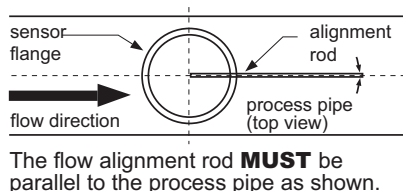
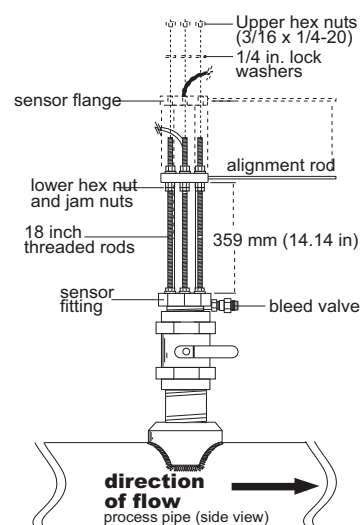

Fig. 10
Fig. 11
- Wipe the sensor body with a dry, clean cloth. Orient the alignment hole on the sensor flange to point **downstream**. Place the slotted flange over the threaded rods. Lower the sensor into the fitting until the sensor flange rests on the lower hex and jam nuts. (Fig. 10)
- Secure the sensor with lock washers and upper hex nuts on the top of the flange. Before tightening, align the sensor flange so that the alignment rod is parallel and level with the process pipe. (Fig. 10 & Fig. 11)